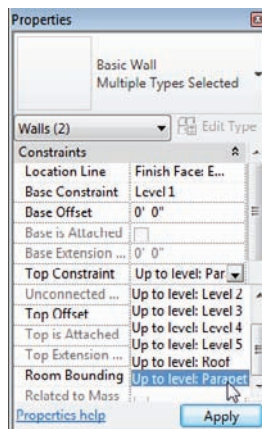
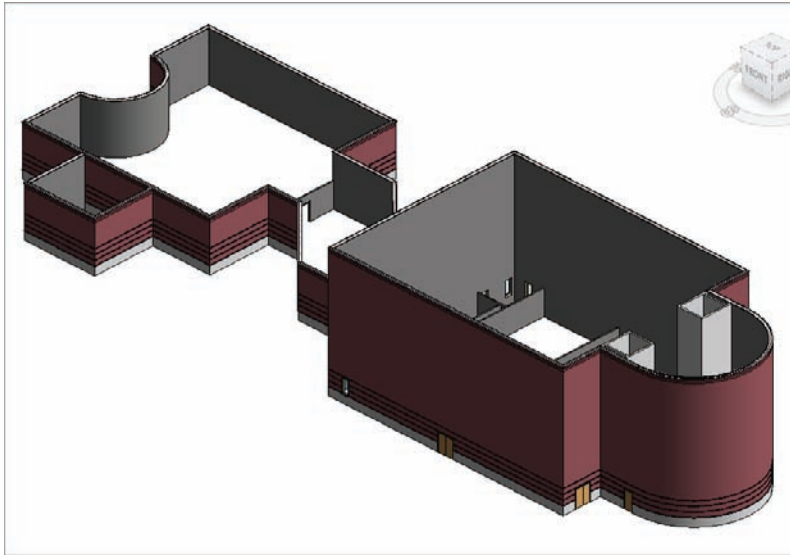

FIGURE 3.21 Setting the top constraint to Up To Level: Parapet
FIGURE 3.22 The walls on the east side of the building are now constrained to the Parapet level.
3. In the Properties dialog, under the Constraints category, change Top Constraint to Up To Level: Parapet, as shown in Figure 3.21. Click Apply or move your cursor into the drawing window to set your property change. Your walls should now extend to the Parapet level, as shown in Figure 3.22.